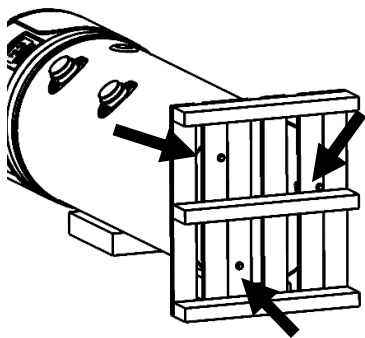

Fig. 2b;
- Unscrew the three bolts which hold the pallet to the water heater; Fig.2b